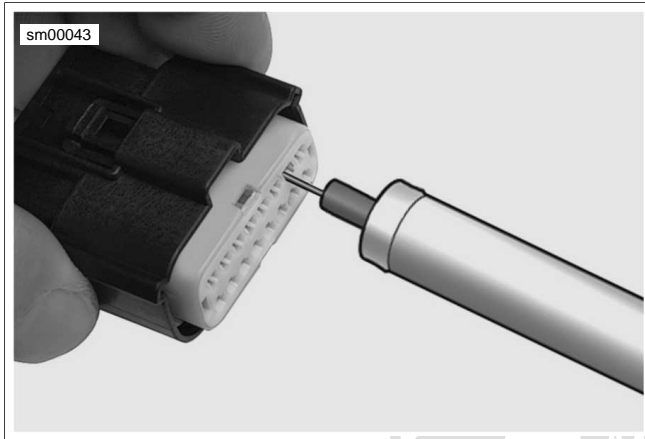

Figure A-25. Molex Connector: Terminal Remover (HD-48114)
2. See Figure A-25. Insert MOLEX ELECTRICAL CONNECTOR TERMINAL REMOVER (Part No. HD-48114) into the pin hole next to the terminal until the tool bottoms.